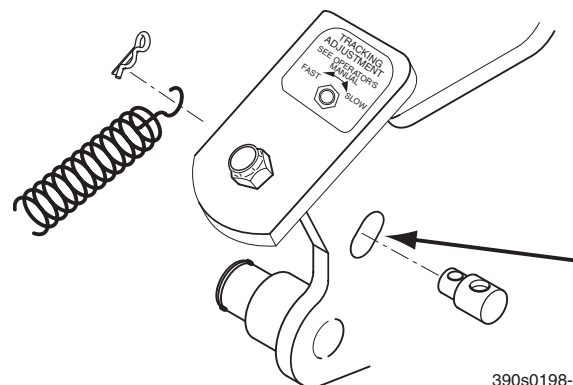

Figure 6-2. Control Rod Adjustment
3. Reinstall the speed control spring onto the swivel. Install the hair pin onto the swivel. See Figure 6-2.